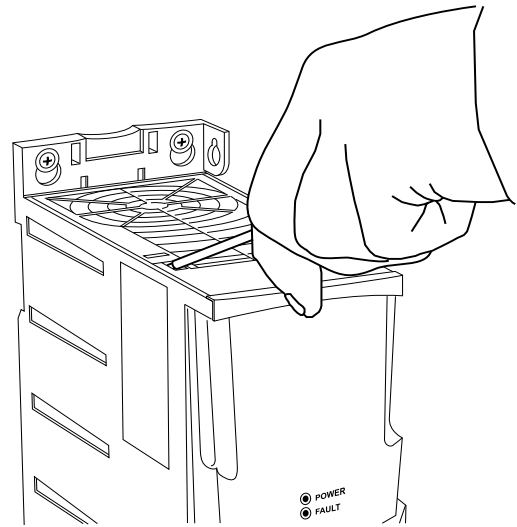

Fig. 37 — Remove Top Cover on ACS320 VFD
2. Insert a small straight blade screwdriver into the slot and press in to release the top cover as shown in Fig. 37.